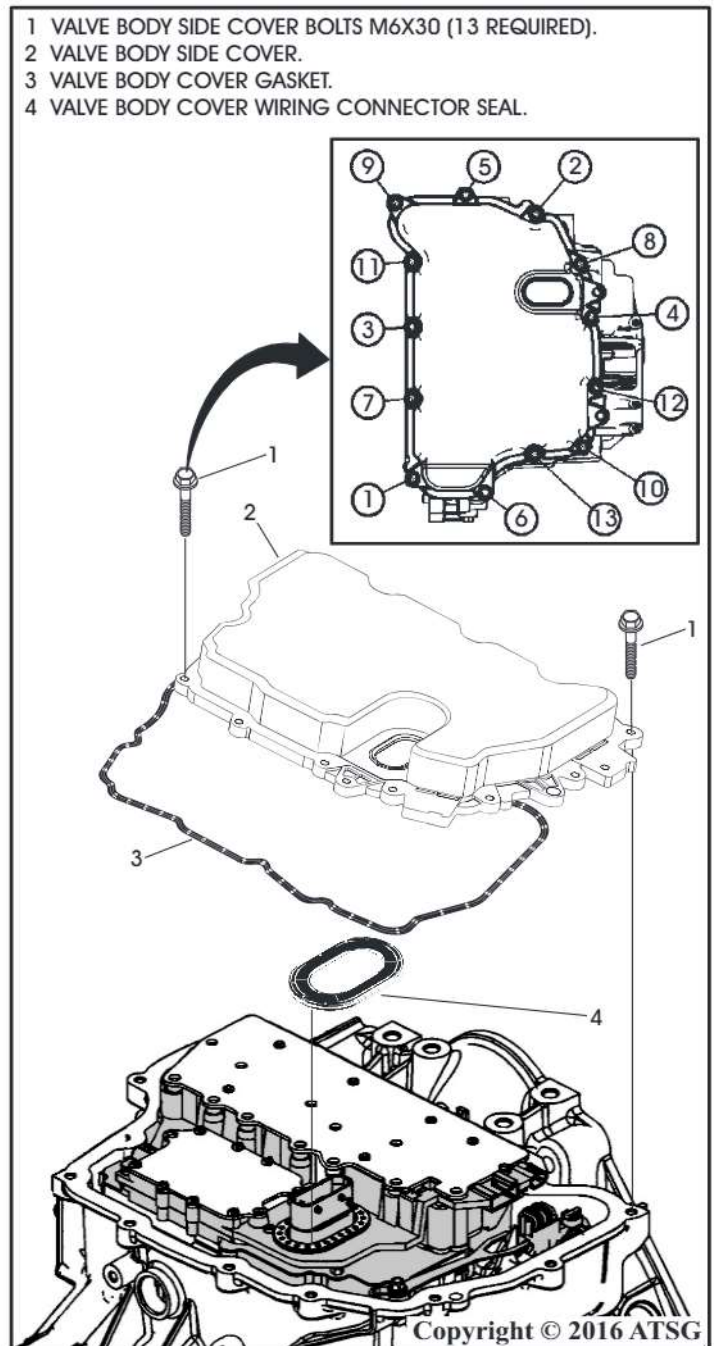

Figure 180
125. Install a new valve body cover wiring connector seal as shown in Figure 180.
126. Install a new valve body cover gasket as shown in Figure 180 by pushing it into the groove in the cover.
127. Install the valve body cover and insert the thirteen (13) M6X30 valve body cover bolts as seen in Figure 180.
128. Torque the valve body cover bolts to 106 lb. in. (12 N·m) using the tightening sequence shown in Figure 180.